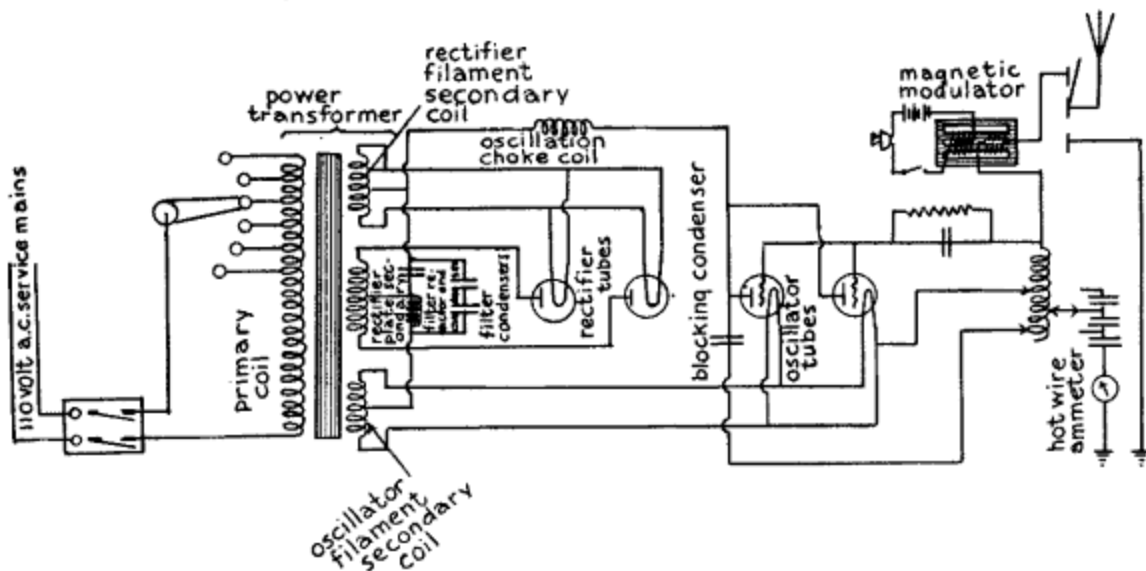

FIG. 93.—100 to 200 Mile Wireless Telephone Transmitter.
Connecting Up the Apparatus.--The wiring diagram in Fig. 93 shows how the various pieces of apparatus for this telephone transmitter are connected up. You will observe: (1) that the terminals of the power transformer secondary coil which develops 10 volts are connected to the filaments of the oscillator tubes; (2) that the terminals of the other secondary coil which
A 100 to 200 Mile Wireless Telephone Transmitting Set--With 110 Volt Alternating Current.--This telephone transmitter is built up of exactly the same pieces of apparatus and connected up in precisely the same way as the one just described and shown in *Fig. 93*.
The apparatus is wired up as shown in *Fig. 93*.
The Operation of Microphone Modulators--The Induction Coil.--This device is really a miniature transformer, see A in *Fig. 86*, and its purpose is to change the 6 volt direct current that flows through the microphone into 100 volts alternating current; in turn, this is impressed on the oscillations that are surging in either (1) the grid circuit as shown at A in *Fig. 89*, and in *Fig. 90*, (2) the aerial wire system, as shown at B in *Fig. 89* and *Fig. 93*. When the current from the battery flows through the primary coil it magnetizes the soft iron core and as the microphone varies the strength of the current the high voltage alternating currents set up in the secondary coil of the induction coil are likewise varied, when they are impressed upon and modulate the oscillating currents.
The Magnetic Modulator.--This piece of apparatus is also called a *magnetic amplifier*. The iron core is formed of very thin plates, or *laminations* as they are called, and this permits high-frequency oscillations to surge in a coil wound on it. In this transformer, see *A* in *Fig. 88*, the current flowing through the microphone varies the magnetic permeability of the soft iron core by the magnetic saturation of the latter. Since the microphone current is absolutely distinct from the oscillating currents surging through the coil of the transformer a very small direct current flowing through a coil on the latter will vary or modulate very large oscillating currents surging through the former. It is shown connected in the aerial wire system at *A* in *Fig. 88*, and in *Fig. 93*.
The Operation of Wireless Telephone Transmitters with Alternating Current.--Where an initial alternating current is used for wireless telephony, the current must be rectified first and then smoothed out before passing into the oscillator tube to be converted into oscillations. Further so that the oscillations will be sustained, two oscillator tubes must be used, and, finally, in order that the oscillations may not vary in amplitude the alternating current must be first changed into direct current by a pair of rectifier vacuum tubes, as shown in *Fig. 93*. When this is done the plates will be positively charged alternately with every reversal of the current in which case there will be no break in the continuity of the oscillations set up and therefore in the waves that are sent out.